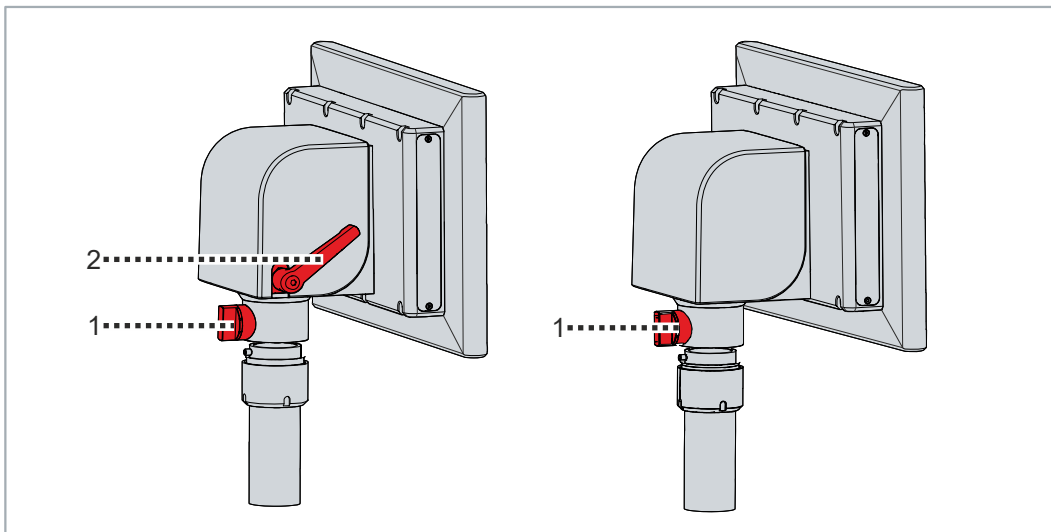

Fig. 16: Mounting arm adapter
Figure 16 shows the two available mounting arm adapters. Both adapters have a locking screw to prevent rotation (1). C9900-M761 has an additional clamping lever (2) to lock the tilt. Both mounting arm adapters can be rotated by $\pm 165^\circ$. The adapter adapts the panel PC with a 48 mm circular tube. The permissible tolerance is 0.3 mm.